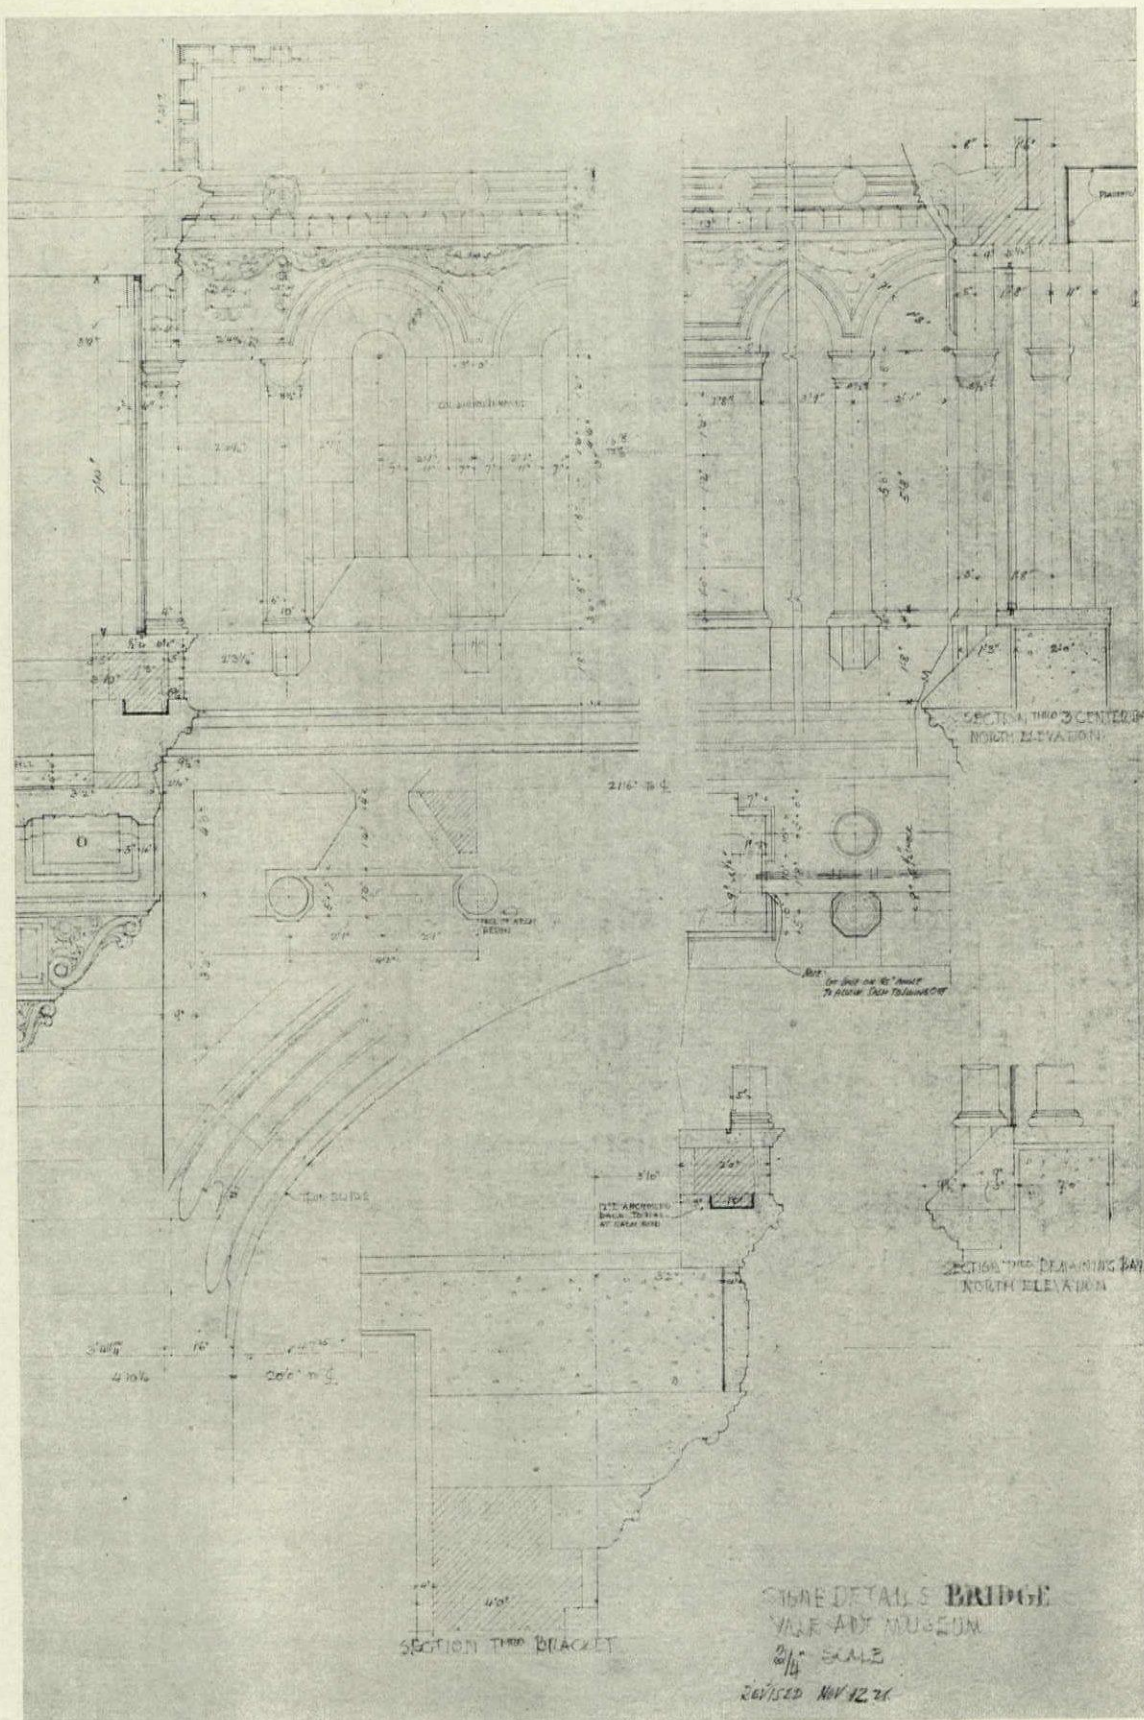
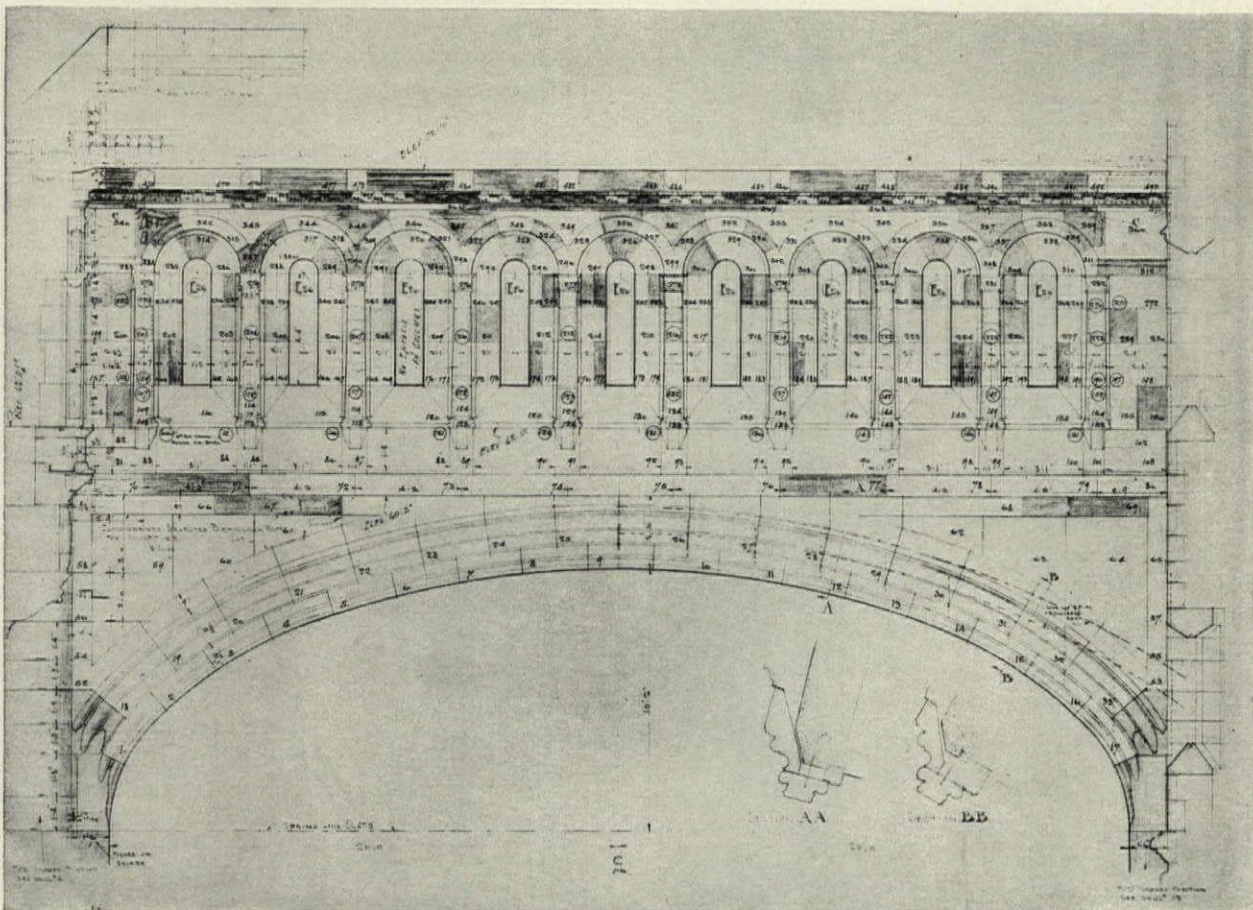

FIGURE 3—PORTION OF ARCHITECT'S $\frac{3}{4}$ INCH SCALE STONE DETAIL DRAWING
FIGURE 4—STONE COMPANY'S DRAWING FOR BRIDGE, YALE ART MUSEUM
The actual making of shop drawings is only a small part of the stone draftsman's work. Figure 3 illustrates an architectural detail that the company used in conjunction with the general plans for preparing the shop drawing shown in Figure 4. The stone represented by this drawing is a mixture of two Ohio sandstones, one has been shaded in so the architect could study the distribution and to facilitate the handling in the shop and the setting on the building. After a drawing like this is approved, the draftsman makes the corrections, rechecks the dimensions, and numbers the pieces from left to right, beginning at the lower left-hand corner of each elevation. Following this he tickets and lists each piece and cuts the patterns—all are guides in the manufacture. On intricate work such as domes, tracery, circle on circle arches, ramps and twists, expert knowledge of stereography is required to lay out work so the patterns can be made and the information listed for the men in the shop to follow. The cost of drafting is one of the largest operating expenses in the stone industry, and on intricate work the cost per cubic foot often exceeds that of the rough stock.
4. On the elevation, lay off the horizontal line FG a distance down from the line AB equal to $r_{12} + \text{radius of eye}$ —(see figure 4.)